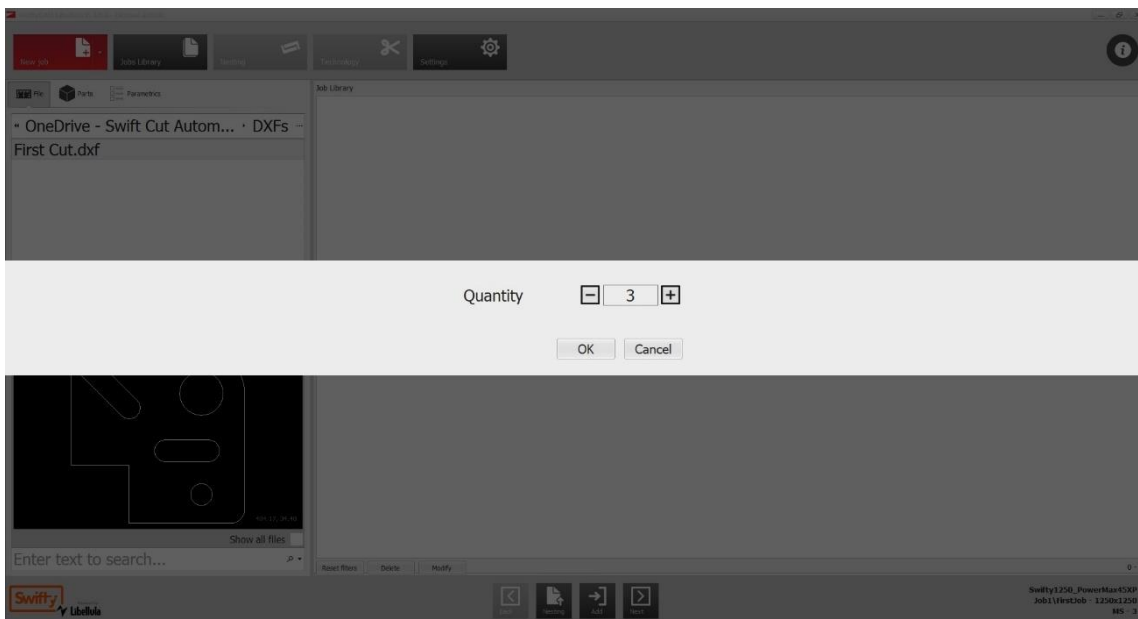

Fig 52 Adding quantity
10. Add the quantity using the +/- buttons (Fig 52), then press the OK button.